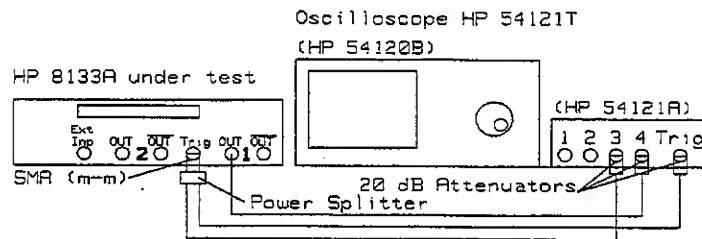

Figure 6-7.
1. Connect the HP 8133A to the oscilloscope as shown in Figure 6-7.